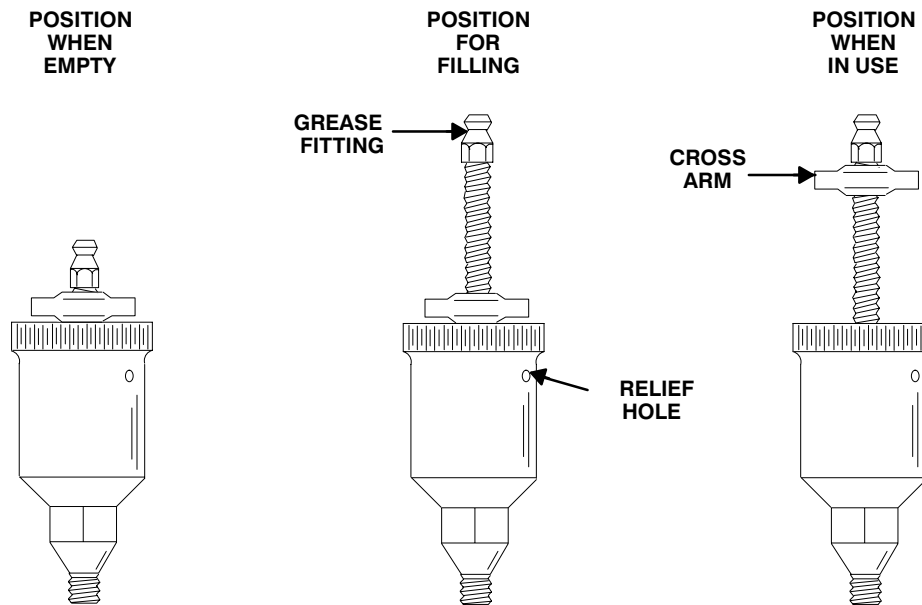

Figure 4. Automatic Lubricating Grease Cup
Before removing the impeller, turn the cross arm on the automatic grease cup (8) clockwise until it rest against the cover (see Figure 4). This will prevent the grease from escaping when the impeller is removed. Remove the grease cup (8).
apes from the relief hole. Turn the grease cup arm counterclockwise until it is at the top of the stem; this will release the spring to apply grease to the seal (see Figure 4).